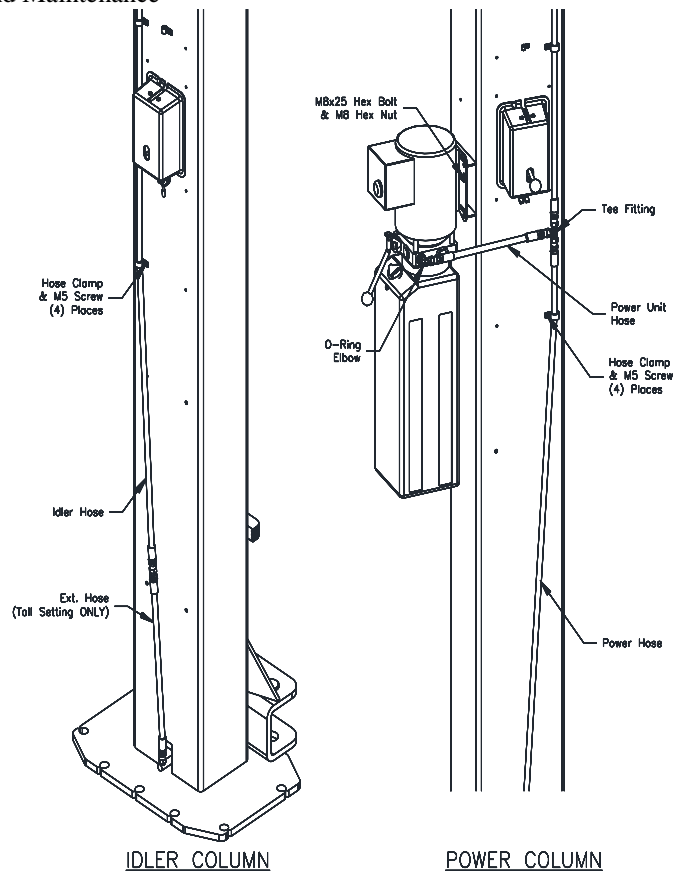

Fig. 6 – Hose Routing
- 19) Mount Power Unit to power column as shown in **Fig. 6** using (4) M8 hex bolts and nuts.
- 24) Route the power hose from the power side cylinder elbow fitting up to the union tee provided. Connect idler hose and power unit hose to the union tee as shown in **Fig. 6**.